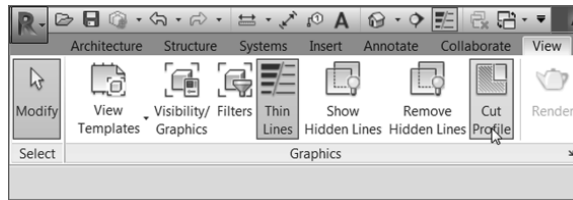

FIGURE 2.61: Click the Cut Profile button, and select the gypsum.
5. On the Graphics panel of the View tab, click the Cut Profile button, as shown in Figure 2.61.